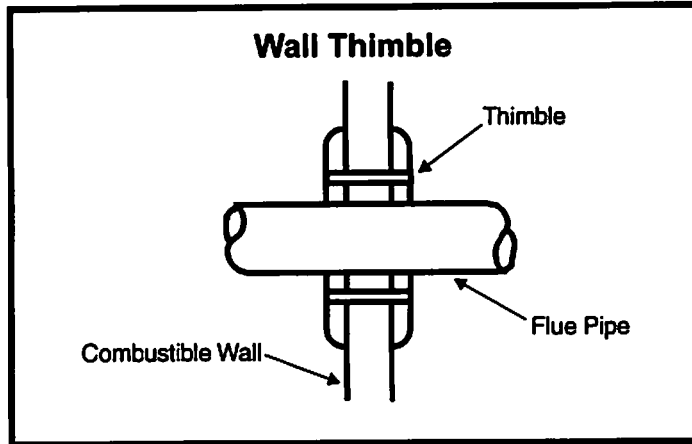

Figure 5
- The flue pipe may pass through a wall where provisions have been made for a thimble as specified in the Standards of the National Board of Fire Underwriters (see Figure 5).